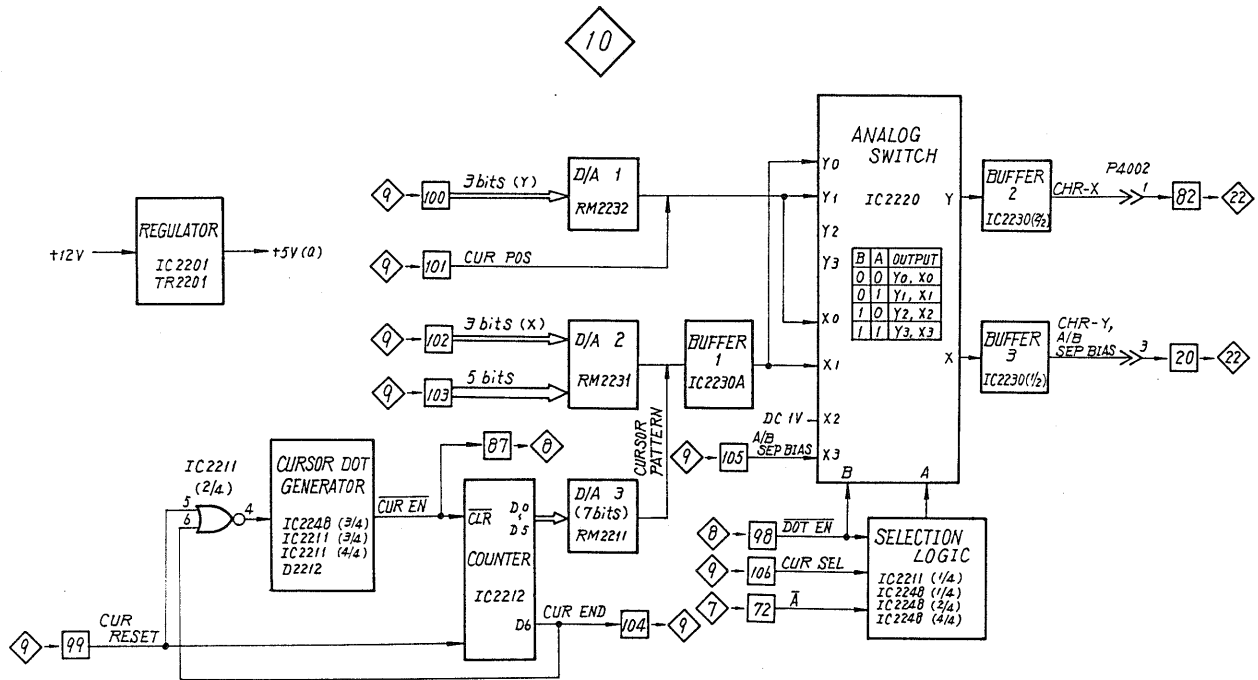

Fig. 5-16
While the change of the setting state is being fed out from the MPU, the waveform display is blanked so as not to appear the disturbance of the waveform. For this purpose, the control signal is sent to the Z-CONT circuit from the output port PC3 via  . The H signal is fed out from PC3 in case of blanking. The character display data is fed out from LATCH 2 IC3005 and LATCH 3 IC3004, converted into analog data by RM2232 and RM2231 10 (Fig. 5-16), and then fed out as analog voltages CHR-X and CHR-Y from ANALOG SWITCH
IC2220 ( , Fig. 5-16). The A/B ALT SEP BIAS voltage is fed out from the same terminal as that of CHR-Y. The switching of characters, vertical and horizontal cursor patterns, and A/B ALT SEP BIAS outputs is performed by ANALOG SWITCH IC2220 ().
7. Transmission of information on characters and cursor patterns (Refer to Fig. 5-16 and Fig. 5-17.)